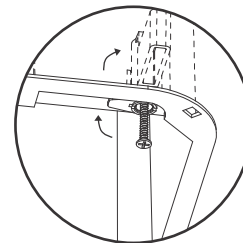

figure 1
3. Please remove the heating lamps first. Connect the ducting if required to the outer grille of the unit. Insert the unit into the square hole being sure to pull the side clips inward so that the body can pass through the hole without damaging the plaster. Rotate the swing clips to hold motor body in place (figure 1) then tighten screw to let the clip clasp onto the ceiling board (figure 2).